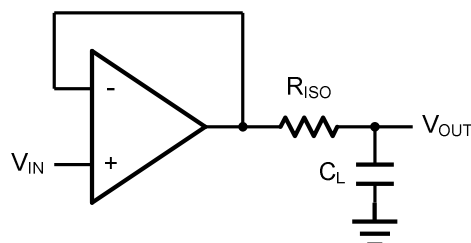
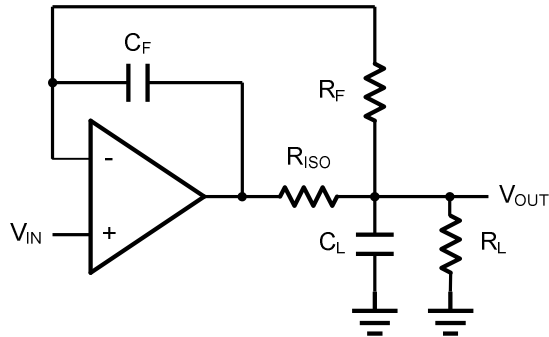

Figure 2 Indirectly Driving a Capacitive Load Using Isolation Resistor
Figure 3. Indirectly Driving a Capacitive Load with DC Accuracy
The LMV321 family is optimized for bandwidth and speed, not for driving capacitive loads. Output capacitance will create a pole in the amplifier's feedback path, leading to excessive peaking and potential oscillation. If dealing with load capacitance is a requirement of the application, the two strategies to consider are (1) using a small resistor in series with the amplifier's output and the load capacitance and (2) reducing the bandwidth of the amplifier's feedback loop by increasing the overall noise gain. Figure 2 shows a unity gain follower using the series resistor strategy. The resistor isolates the output from the capacitance and, more importantly, creates a zero in the feedback path that compensates for the pole created by the output capacitance.
The circuit in Figure 3 is an improvement to the one in Figure 2. R_F provides the DC accuracy by feed-forward the V_{IN} to R_L . C_F